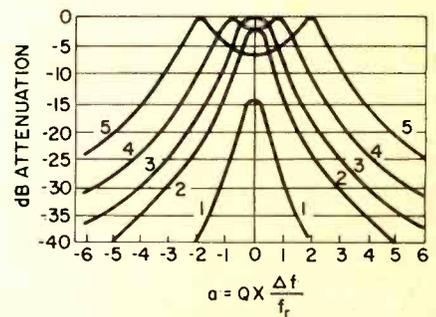

FIG. 3
Figure 3 shows the response of a transformer as *k* is varied by changing the spacing. When the coils are far apart, the curve (1) has a very sharp, low-amplitude peak. As spacing is decreased, the bandwidth and amplitude increase (2). Finally a point is reached (3) where a further decrease in spacing causes the center of the peak to sag so two humps or peaks (4) begin to develop. This point, corresponding to maximum gain, is *critical coupling* (3). Beyond critical coupling, the dip and twin peaks grow more pronounced (4 and 5) and we have an *overcoupled* circuit. If a stage is heavily overcoupled, the signal amplitude drops and the lower frequencies in the sidebands are severely attenuated. If we need the extra wide bandpass available from overcoupling, the top of the curve can be flattened out—roughly to the level at the dip—by shunting each coil with a resistor.